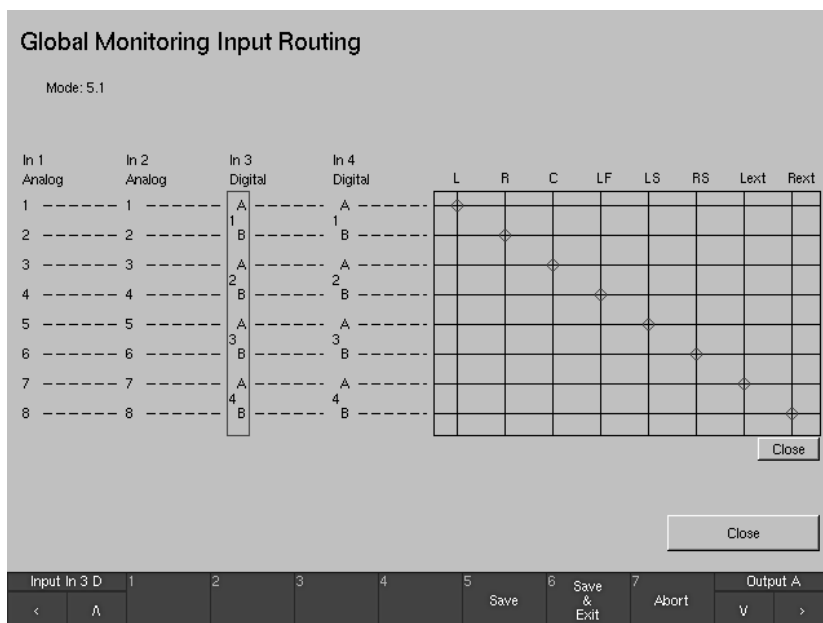

Fig. 4-18: Channel allocation matrix for the Monitoring Input Routing
• **Monitoring Input Routing** (see Fig. 4-18)
This button opens a new menu page with the routing matrix in which you can assign the physical inputs of the connections Monitoring In 1 analog, Monitoring In 2 analog, Monitoring In 3 digital and Monitoring In 4 digital (see Chapters 2.3.9 to 2.3.12 and Fig. 4-18 on the next page) in each case to the internal logical channels L, R and so on.